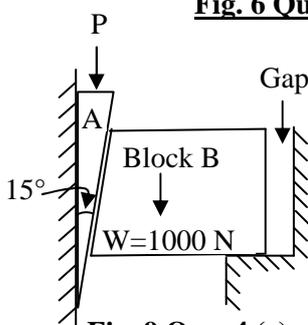

Fig. 9 Que. 4 (c)
- (c) A 15° wedge 'A' is pushed to move block 'B' weighing 1000 N as shown in **fig. 9** Determine the least force 'P' required, if the angle of friction for all contact surfaces is 14° . Neglect self weight of the wedge. **06**